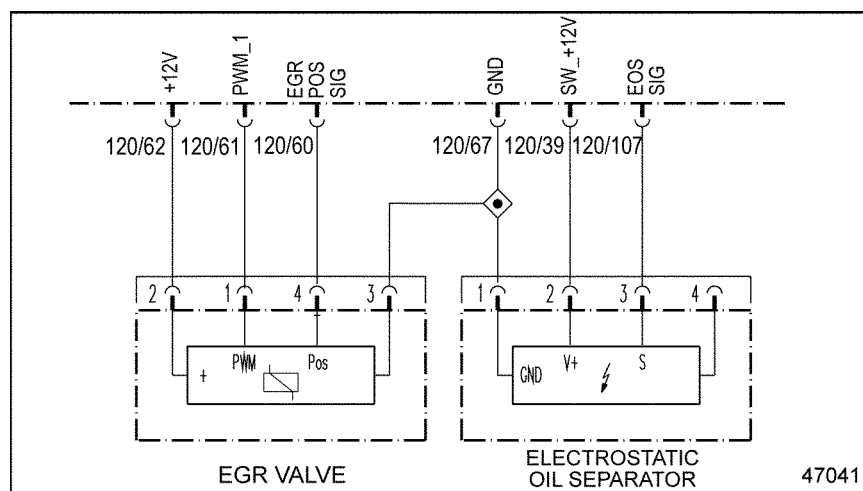

Figure 20-1 Electrostatic Oil Separator Wiring
- [b] If the voltage is less than 11.5 volts, repair the open between pin 1 of the Electrostatic Oil Separator connector and pin 67 of the 120-pin MCM connector. See Figure 20-1. Refer to section 20.1.2.1.